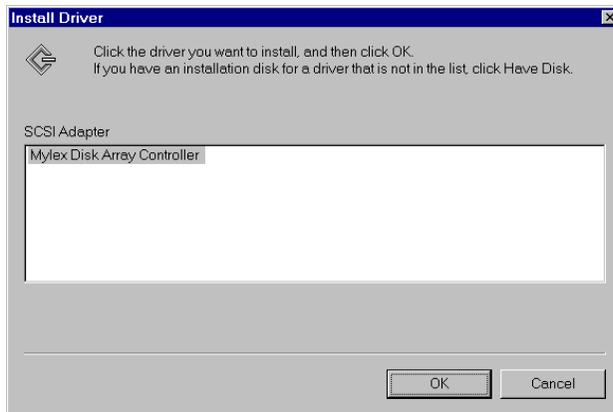

Figure 3-8. Select Mylex Driver for Windows NT 4.x
10. From the Install Driver box, be sure the Mylex Disk Array Controller is selected and click OK (Figure 3-8).